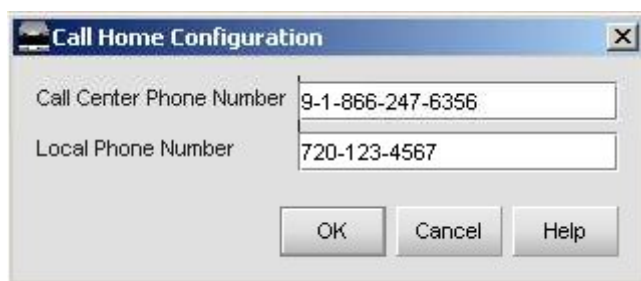

Figure 3.42. Call Home Configuration dialog box
2. At the Windows 2000 desktop, double-click the CallHome Configuration icon. The Call Home Configuration dialog box displays (Figure 3-42).